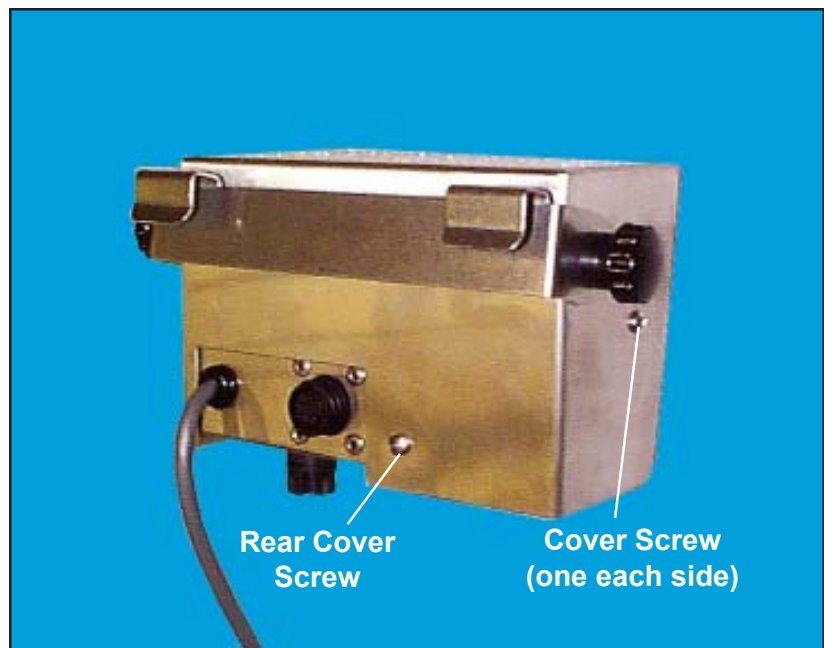

Figure 17. Cover Screws
2. With a Phillips screwdriver, remove the three cover screws (Figure 17). There is one screw on each side of the controller, and one on the rear.
1. Place the cover on the heat controller so that the three cover screw holes (Figure 17) in the cover line up with their respective holes in the chassis frame.